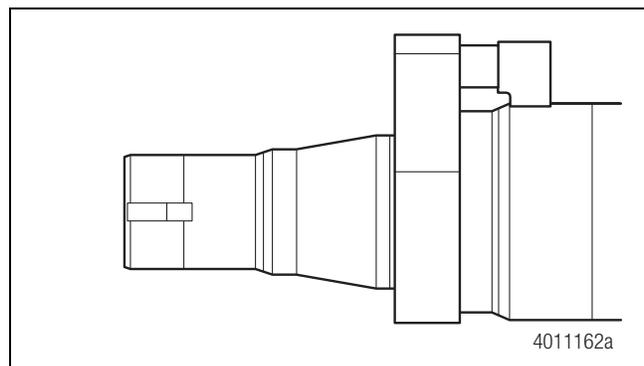

Figure 2
- D. Using the supplied bracket location fixture, confirm the mounting block location is correct. Figure 2.